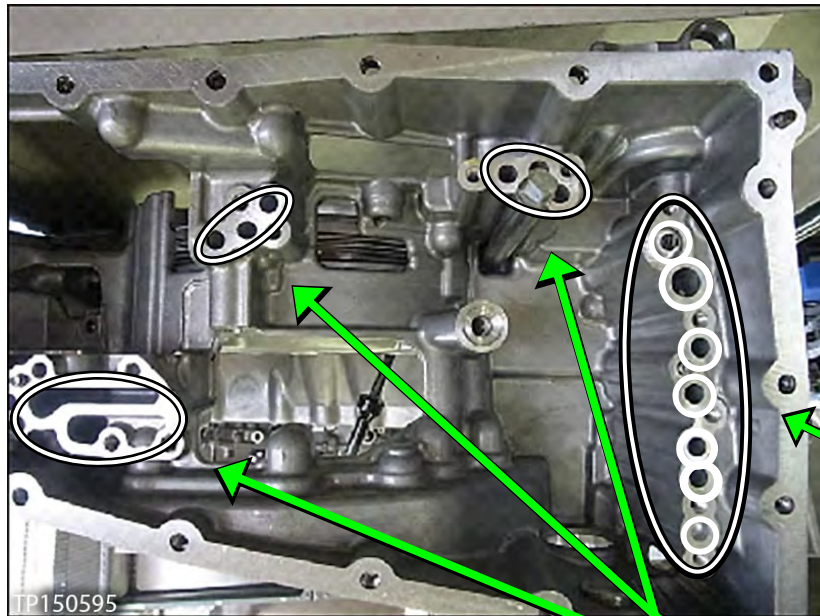
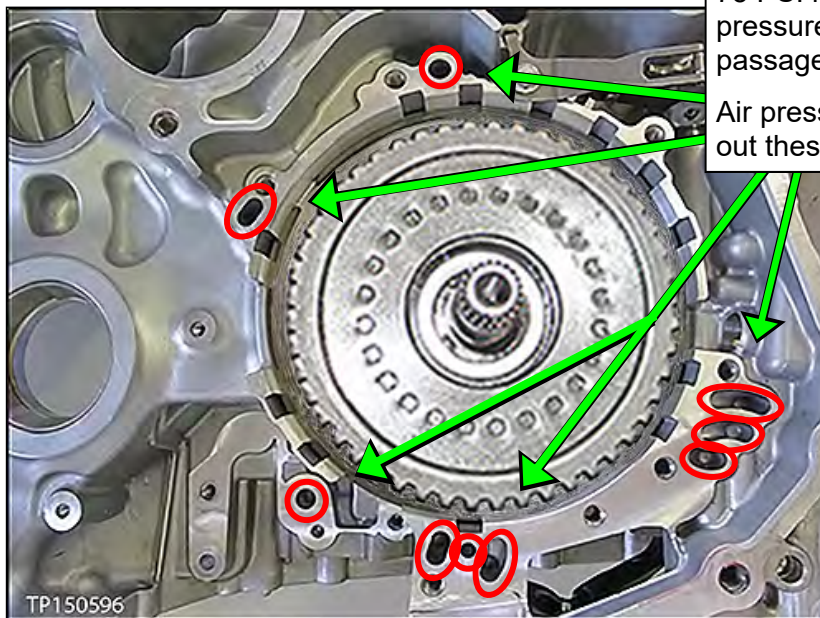

Figure 58
Figure 59
38. Use brake cleaner in all oil passages of the CVT case where shown in Figure 58 and Figure 59.